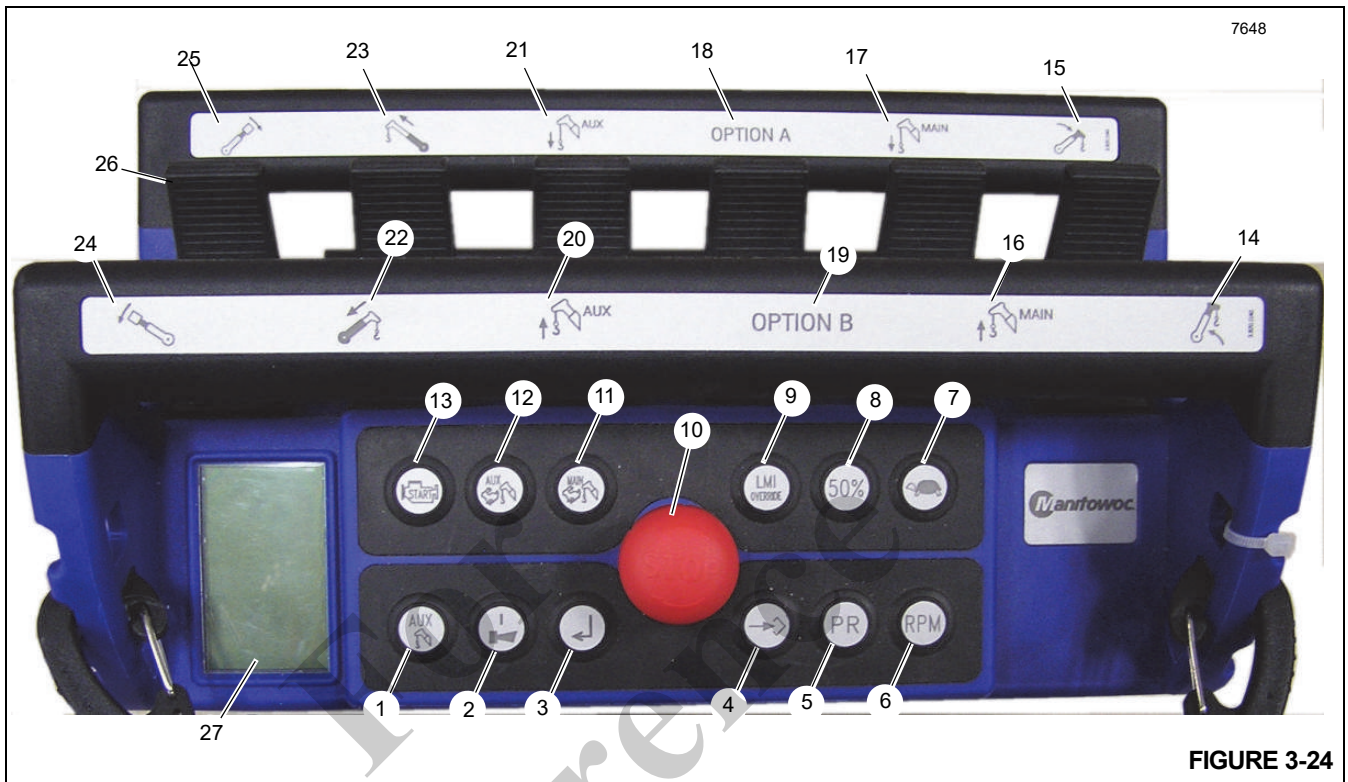

FIGURE 3-24
The optional Crane Remote Control (Figure 3-24) will allow full remote control of the crane. The standard Remote Control is disabled when using the optional Crane Remote Control.
The LCD Screen (27, Figure 3-24 and Figure 3-25) on the display is used to communicate signal strength, battery level, wireless channel, remote status, and the configuration of the machine based upon which buttons are depressed. RCL information is also displayed to the operator and can be toggled by pressing the Toggle Crane RCL Screen button (3). The following RCL information is available to the operator on the LCD screen:
To use this remote, the red STOP button (10, Figure 3-24) must be activated to turn ON the transmitter. To control the crane, the ON/Horn button (2) must be pressed to activate the remote. The crane horn will sound as confirmation that the remote is now active. The crane can now be started by pressing and holding the Engine Start button (13). The remote can now be used to control the crane. To activate a function move the joystick (26) that corresponds to the desired movement.
1. To use this remote, the red STOP button (10, Figure 3-24) must be activated to turn on the transmitter.
2. Press the ON/Horn button (2) to activate the remote. The crane horn will sound as confirmation that the remote is now active.
3. Press and hold the Engine Start button (13) to start the crane. The remote can now be used to control the crane.
4. Move the joystick (26) that corresponds to the desired movement to activate desired function.
5. Press the red STOP button (10) when finished with the remote. This will shut off the crane.